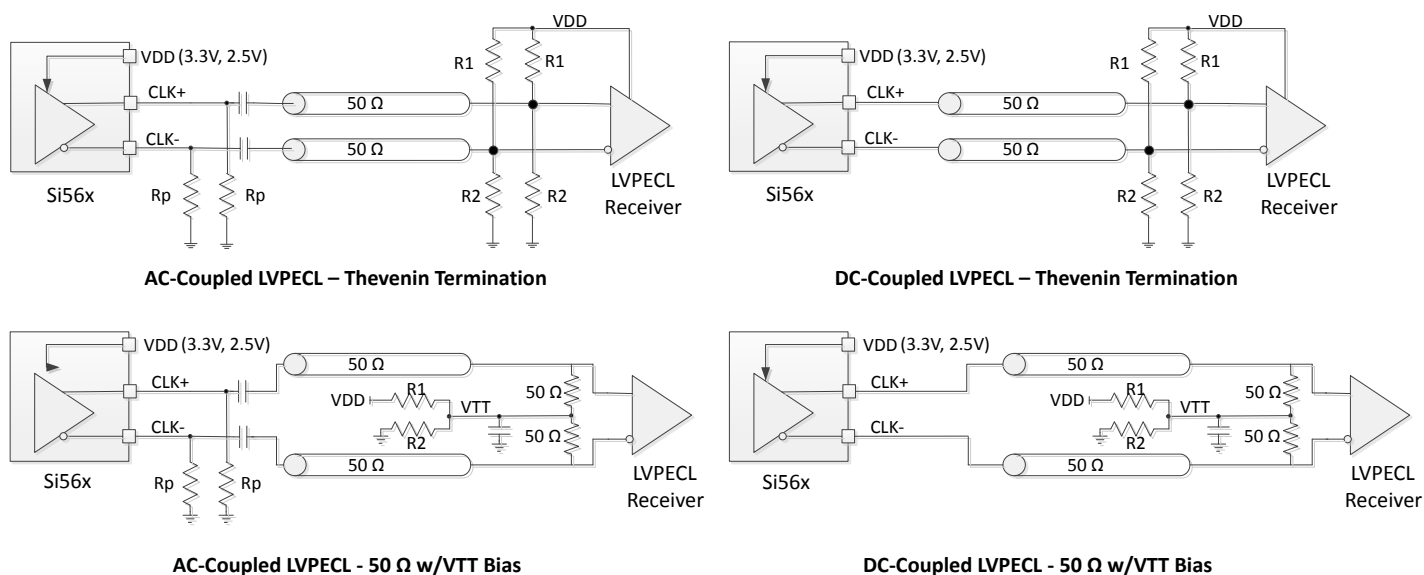

Figure 4.1. LVPECL Output Terminations
- Rterm = 50 Ω to VDD - 2.0 V (see Figure 4.1).